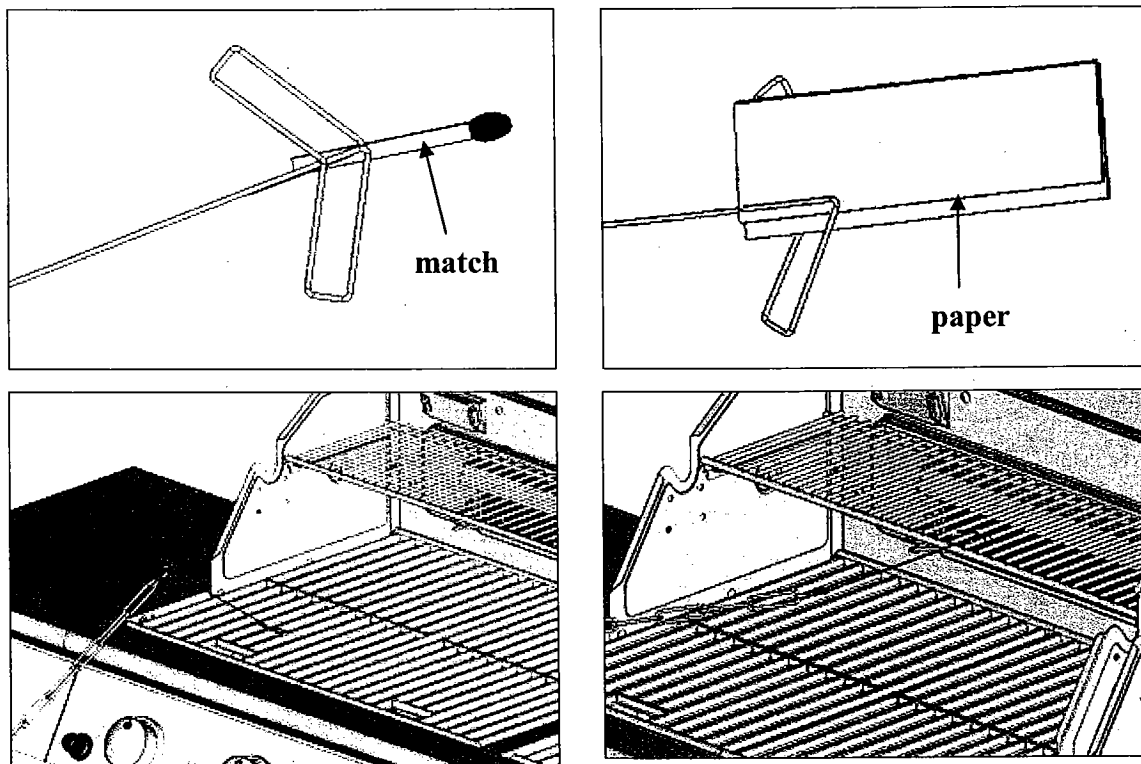

Fig. 51 Match/Paper Lighting Illustration
4. Attach either the match or paper to the clip shown in Fig. 51, light the match and insert it close to the ports of the burner, push and turn the depressed knob to the left to "HI" position.